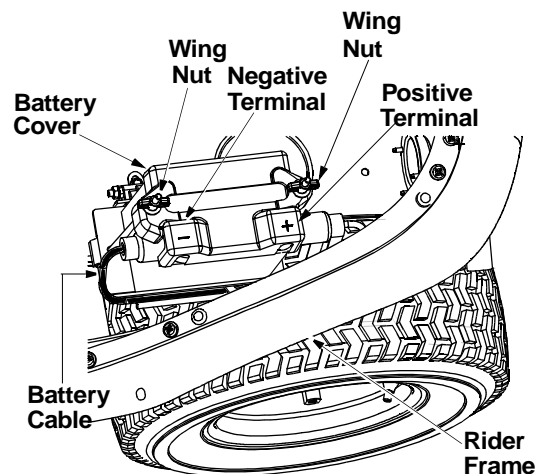

Figure 3
The battery is located under the hood assembly above the left rear wheel. Refer to Figure 3 .
- Remove both wing nuts securing the battery and cover to the battery hold-down rods. See Figure 3 .
- Attach the red battery cable to the positive terminal (marked +), and the black battery cable to the negative terminal (marked -) on the battery. See Figure 3 .